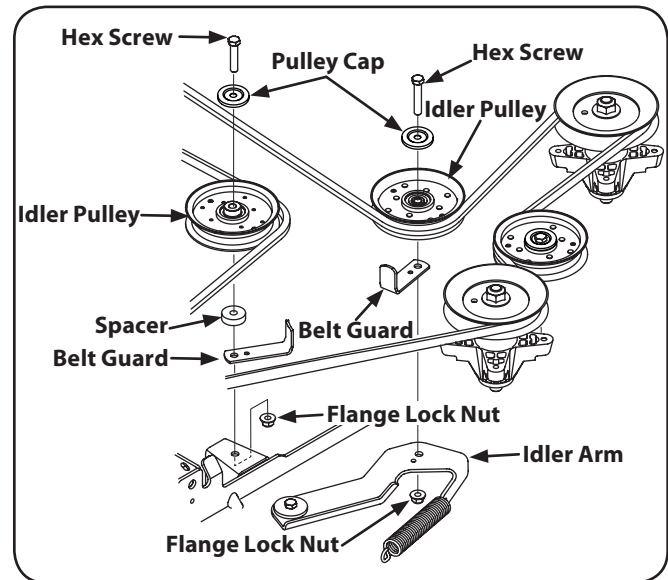

Figure 7-13
3. Remove the two idler pulleys by removing the hex screws and flange lock nuts that secure them to the deck and the idler arm. See Figure 7-13. Do not lose any of the hardware when removing the hex screw and flange lock nut.
6. Place the belt around the idler pulleys removed in step 3 with the "V" side facing in. Once in place, reinstall all the hardware and tighten the flange lock nut to secure the assembly. See Figure 7-13.
7. Route the belt as shown in Figure 7-13 and then reinstall the deck (refer to Deck Installation on page 30).